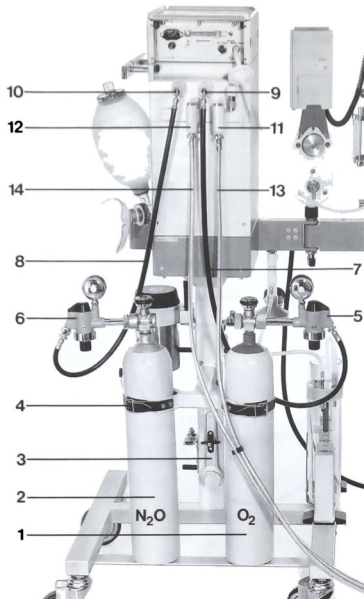

Fig. 4 Sulla 808: Back view, with small cylinders
- Connection of 3 L cylinders (for Sulla 808, see Fig. 4; for Sulla 808 V, see Fig. 6).
- CS¹⁾-connection (for Sulla 808, see Figs. 4 and 5; for Sulla 808 V, see Figs. 6 and 7).